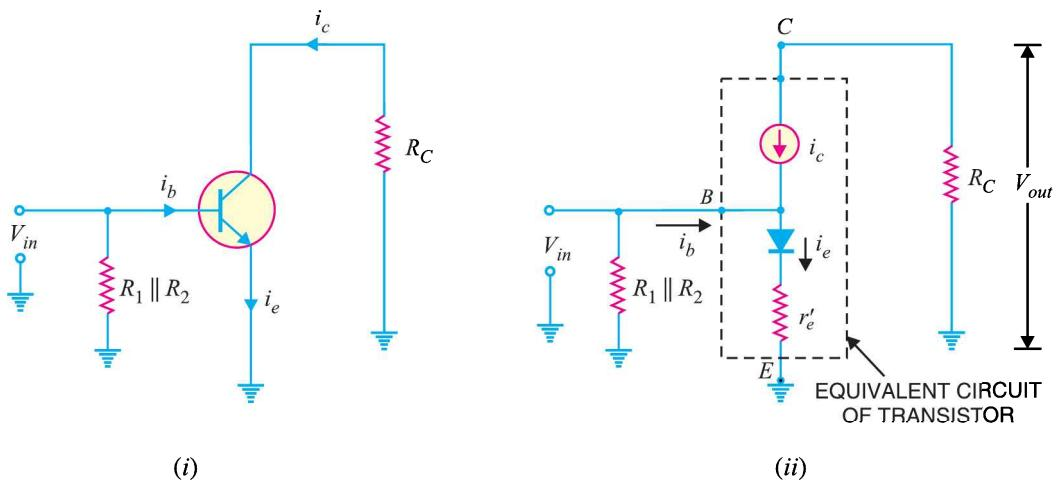
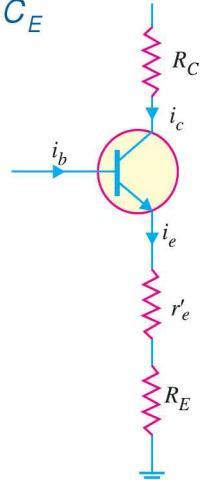

**Fig. 10.25**
Fig. 10.29
The above formula for  $A_v$  can be used if we know the values of  $R_C$  (or  $R_{AC}$ ),  $\beta$  and  $R_{in}$ . Generally, all these values are not known. In that case, we can find the value of  $A_v$  in terms of total a.c. collector resistance and total a.c. emitter resistance. For the circuit shown in Fig. 10.25 (with  $C_E$  connected across  $R_E$ ), it can be proved that the voltage gain is given by ;
Fig. 10.25 shows the circuit of unloaded  $CE$  amplifier (i.e. no load  $R_L$  is connected to the circuit).
**Derivation.** Fig. 10.25 shows the common emitter amplifier. The ac equivalent circuit of the amplifier is shown in Fig. 10.26. (i). Replacing the transistor by its \*equivalent circuit, we get the circuit shown in Fig. 10.26 (ii). Note that current source is still connected between the collector and base terminals while the diode between the base and emitter terminals. Further, the input current is the base current ( $i_b$ ) while the output current is still  $i_c$ .
When we remove the emitter bypass capacitor from the *CE* amplifier shown in Fig. 10.25, the voltage gain of the circuit is greatly reduced. The reason is simple. Without the emitter bypass capacitor  $C_E$ , the emitter is no longer at the ac ground as shown in Fig. 10.29. Therefore, for the a.c. signal, both  $r'_e$  and  $R_E$  are in series. As a result, the voltage gain of the amplifier becomes :